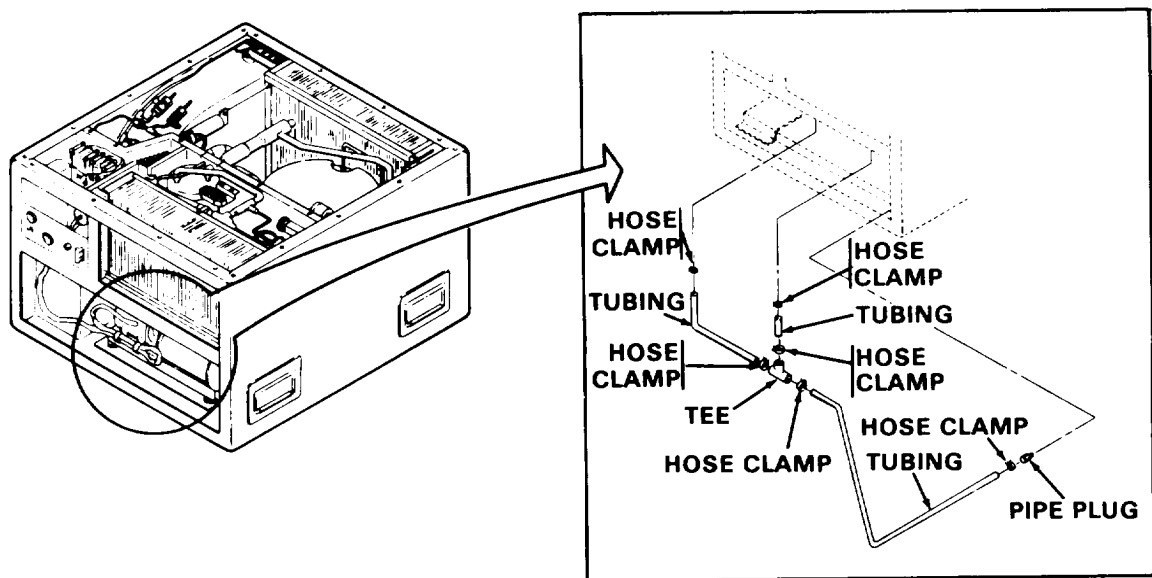

Figure 4-7. Condensate water drain tubes.
- (1) Refer to paragraph 4-19 and remove the evaporator air inlet louver and air filter.
- (2) Refer to figure 4-7 and remove clamps which hold plastic drain tubes to fittings.
- (1) Refer to figure 4-7 and replace tubes and clamp securely.
- (2) Refer to paragraph 4-19 and replace the evaporator air inlet louver.